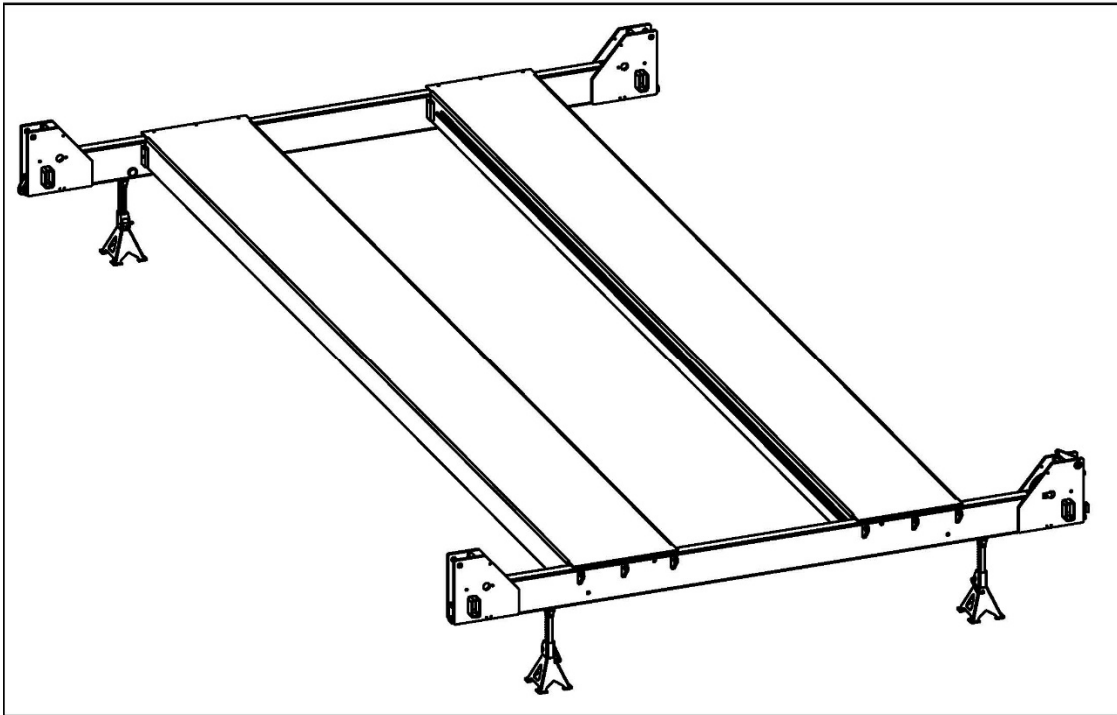

Figure 16. Jack Stand setup on Crossmembers
8. Using floor jack(s) and/or engine hoist(s), move the (4) jack stands from under the left side deck to each corner on the crossmember. **Figure 16**